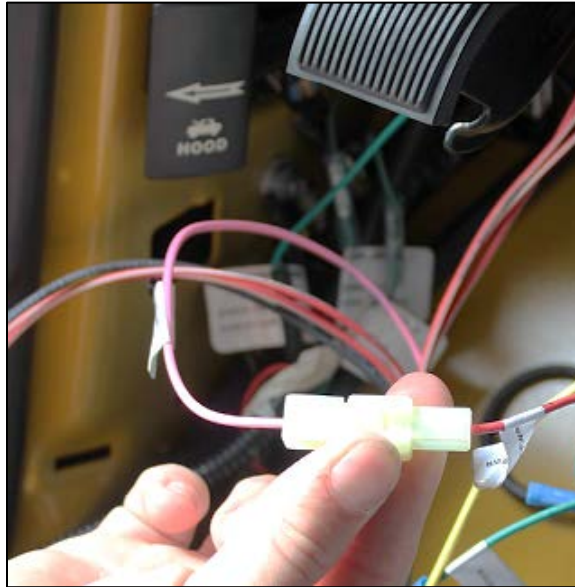

Figure 5: Connection of IGN Wires
9. Install the Power to IGN wire underneath the floor covering by snapping it into place on the body harness. If something else is also connected into the same plug, connect both to same circuit, making sure this does not overload circuit. (The IGN wire may be a different color than the one under the floor covering, but will be labeled). See **Figure 5**.